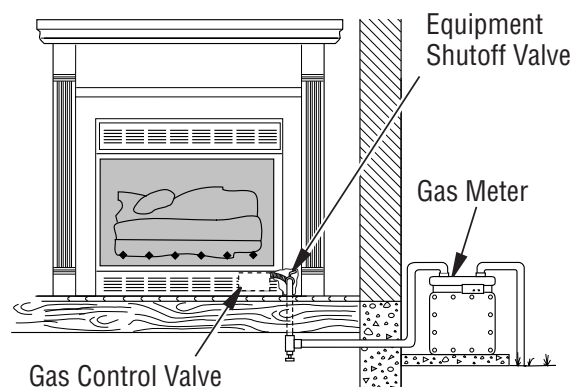

Figure 23 - Checking Gas Joints for Natural Gas
3. Check all joints from gas meter to equipment shutoff valve for natural gas or propane/LP supply to equipment shutoff valve for propane/LP (*see Figures 23 or 24*). Apply noncorrosive leak detection fluid to all joints. Bubbles forming show a leak.
4. Check all joints from equipment shutoff valve to gas control valve (*see Figures 23 or 24*). Apply noncorrosive leak detection fluid to all joints. Bubbles forming show a leak.